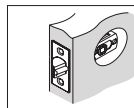

Figure 5a
- Make sure the face plate sits flush with the door. Do not force the Latch into the mortise flush. Chisel out excess material if necessary for a flush fit (Figure 5a).